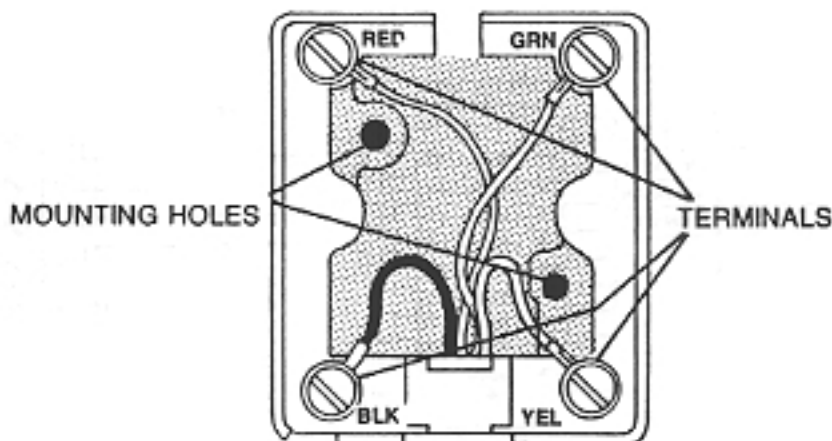

Figure 5-6 4-WIRE MODULAR STATION JACK
4.01 Use standard quad station cable from the connecting blocks to the modular jacks. The station cable is terminated at the extension location in a 625A or 625F ( 4-wire ) modular jack, or equivalent with screw-type terminals. Connect the GRN, RED, BLK and YEL conductors of the cable to the matching color terminals on the modular jack ( Figure 5-6 ).